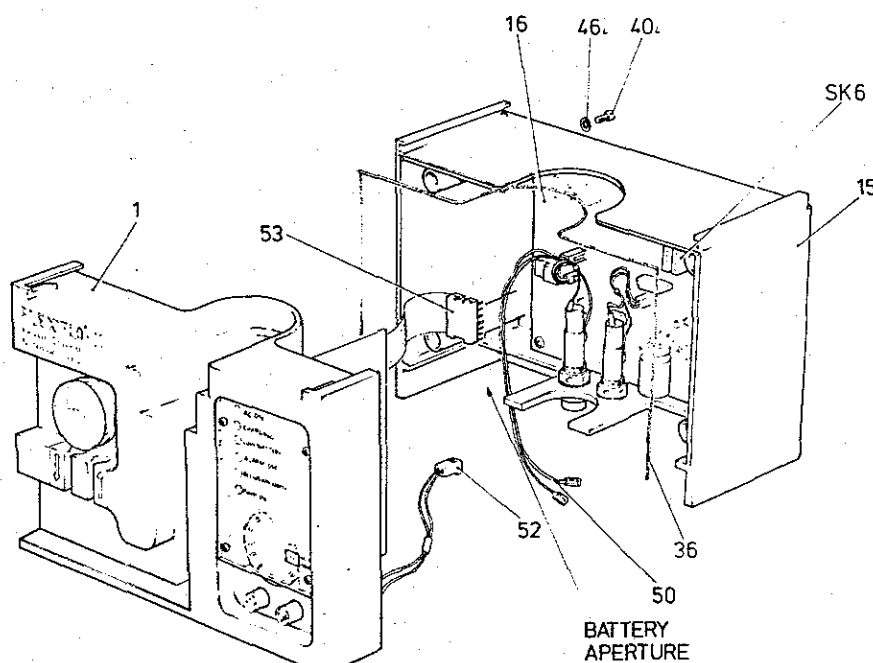

Fig. 13
Refer to Figure 13. The neoprene gasket (item 36) should be positioned correctly in the slot around the inside edge of the rear housing (item 15).